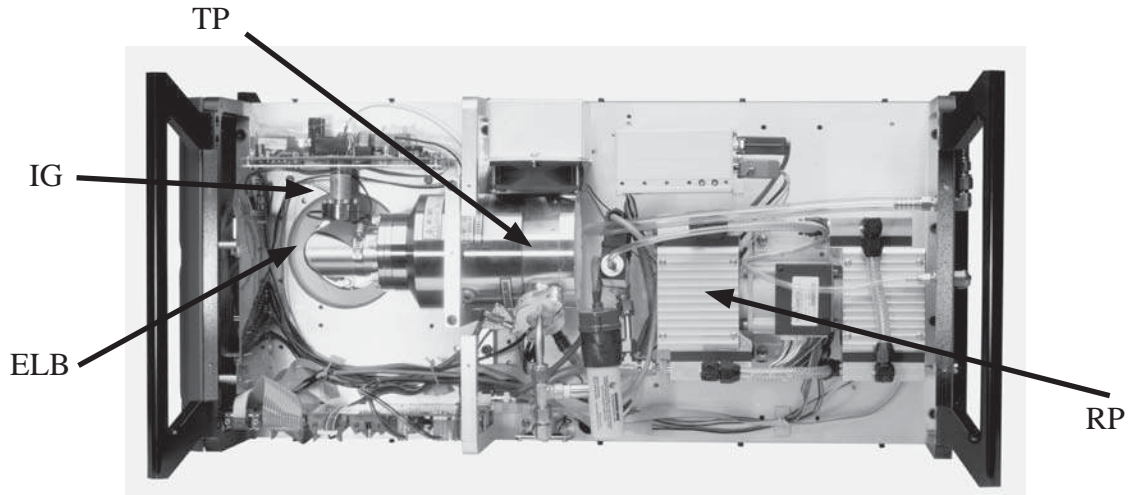

Figure 1-8a. Bottom view of UGAPM - component configuration.
This volume houses vacuum control and system control consisting of TP connection elbow with its heater (ELB), TP, Diaphragm pump of TP backing (RP), Pirani gauge (PG), Ion gauge (IG), roughing line, Main control PCB, Auxiliary control PCB, Ion gauge control PCB, TP controller, a speaker, and a TP cooling fan. On the elbow, a heater for system baking is attached. (Fig. 1-8a) The elbow area is surrounded with an insulating box for the shipping assembly. PVC tubes are used to connect exhaust line and the system venting line.